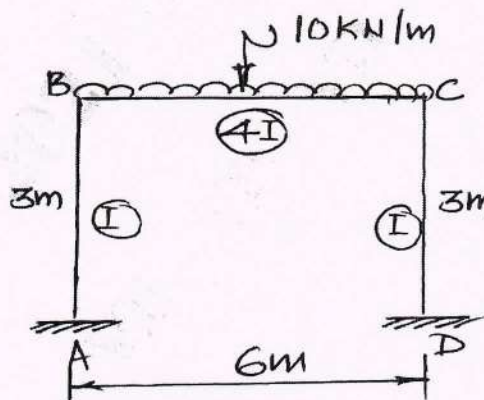

Fig.Q10
- 10 Analyze the rigid jointed plane frame shown in Fig.Q10 by stiffness matrix method. Draw BMD.